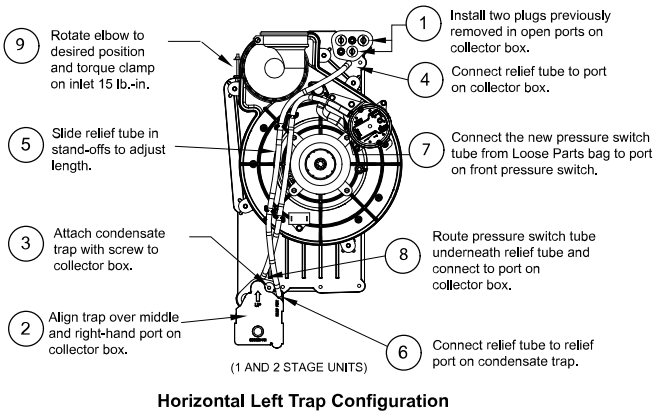

Fig. 11 – Horizontal Left Configuration (Appearance may vary)
When the furnace is installed in the horizontal right position, the condensate trap will be initially located at the bottom of the collector box, as received from the factory. See the top image in Fig. 10. When the furnace is installed in the horizontal left position, the condensate trap will be initially located at the top of the collector box, as received from the factory. See the top image in Fig. 11. In both cases the trap must be repositioned on the collector box for proper condensate drainage. See the bottom images in Fig. 10 and Fig. 11.
- Fig. 11 shows the condensate trap and tubing before and after relocation in the horizontal left position.